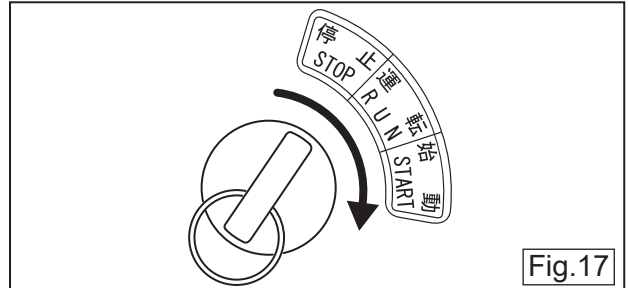

Fig.17
- 7.1 Turn the key further to the "START" position to start the engine. After the engine is started, take your hand off the key. (Fig.17)